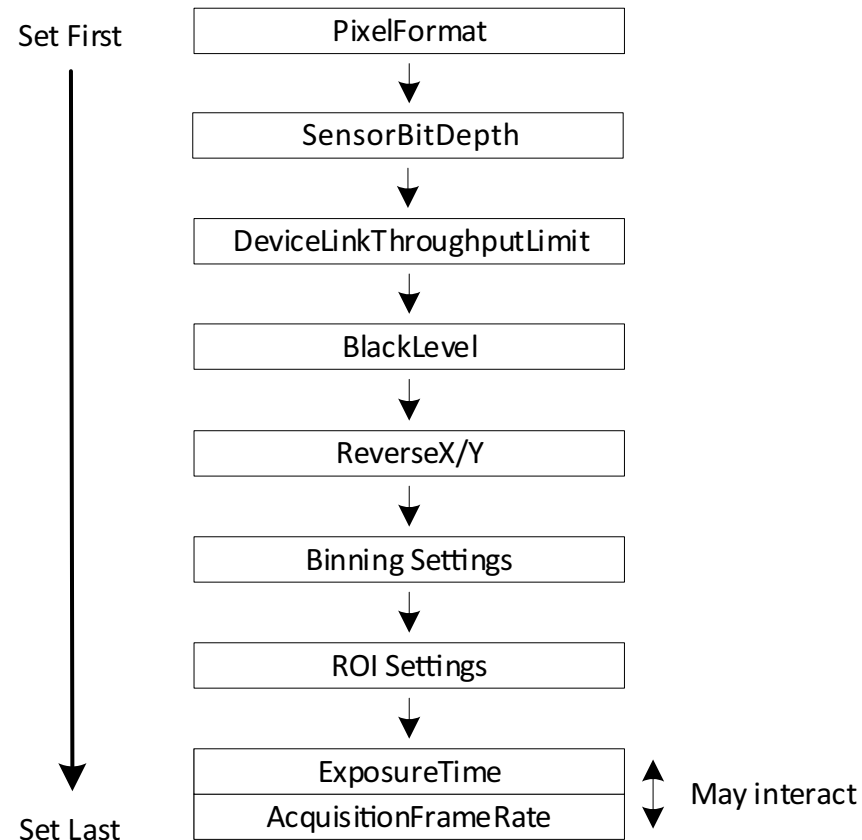

Figure 77: Interdependencies between features
The conversion between time and clock cycles affects control values. Features for pixel format, bandwidth, ROI, exposure time, and triggering are related to each other. Changing values for one feature can change values for another feature. For example, frame rates can be reduced when `PixelFormat` is changed subsequently. Figure 77 shows the interdependencies.
- To avoid readjustments, apply settings in the order shown in Figure 77.